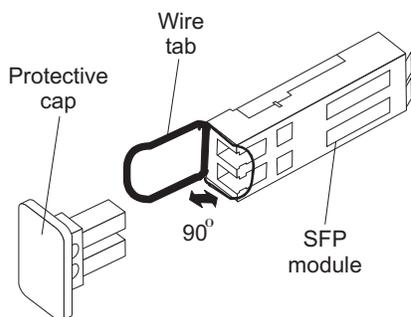

Figure 26. Unlocking the SFP module latch - wire variety
- For SFP modules that contain wire tabs, unlock the SFP module latch by pulling the wire latch outward 90°, as shown in Figure 26 on page 50.